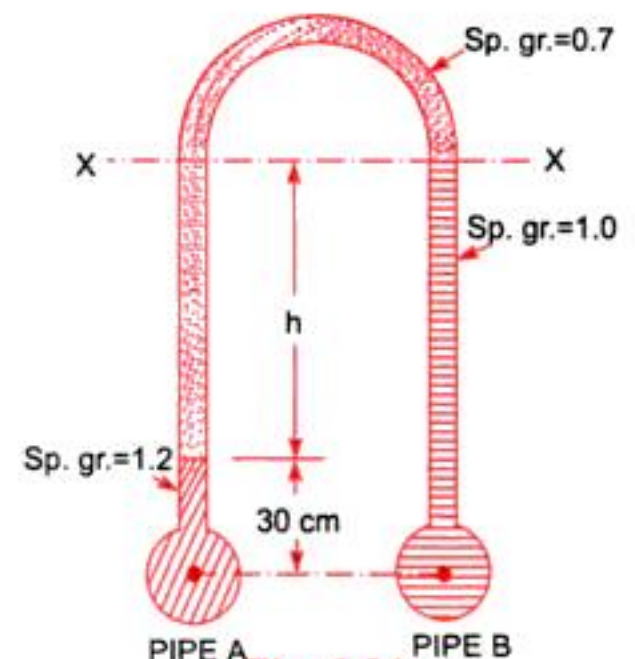

Fig. 2.24
**Problem 2.20** Find out the differential reading 'h' of an inverted U-tube manometer containing oil of specific gravity 0.7 as the manometric fluid when connected across pipes A and B as shown in Fig. 2.24 below, conveying liquids of specific gravities 1.2 and 1.0 and immiscible with manometric fluid. Pipes A and B are located at the same level and assume the pressures at A and B to be equal.
Fig. 2.24 shows the arrangement. Taking X-X as datum line.